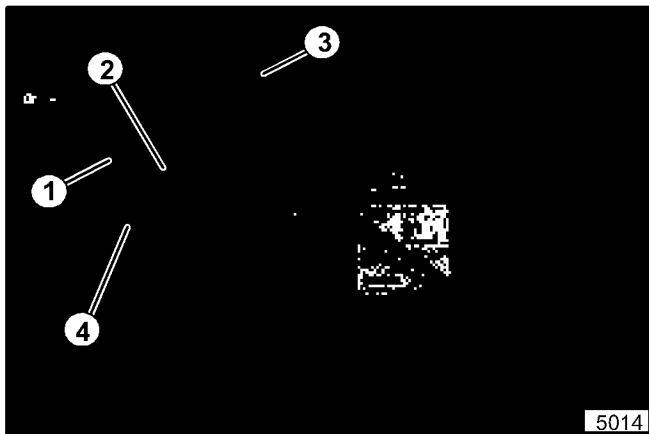

Figure 11. Throttle Cable On Front Of Engine
18. Connect the throttle cable wire to the throttle lever and clamp the cable to the throttle plate on the front of the engine (see figure 11).
19. Connect the switch wire to the electrode behind the throttle plate (opposite end of the electrode to which the engine wire is connected, see figure 11).
20. Clamp the throttle cable to the front of the engine cowl as shown in figure 11.